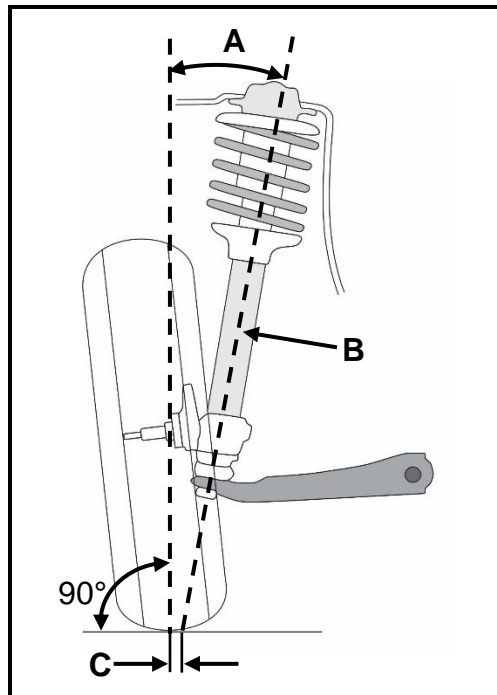

FIGURE 10.3
10.3 FIGURE 10.3 below shows the king pin inclination, as seen from the front. Answer the questions that follow.